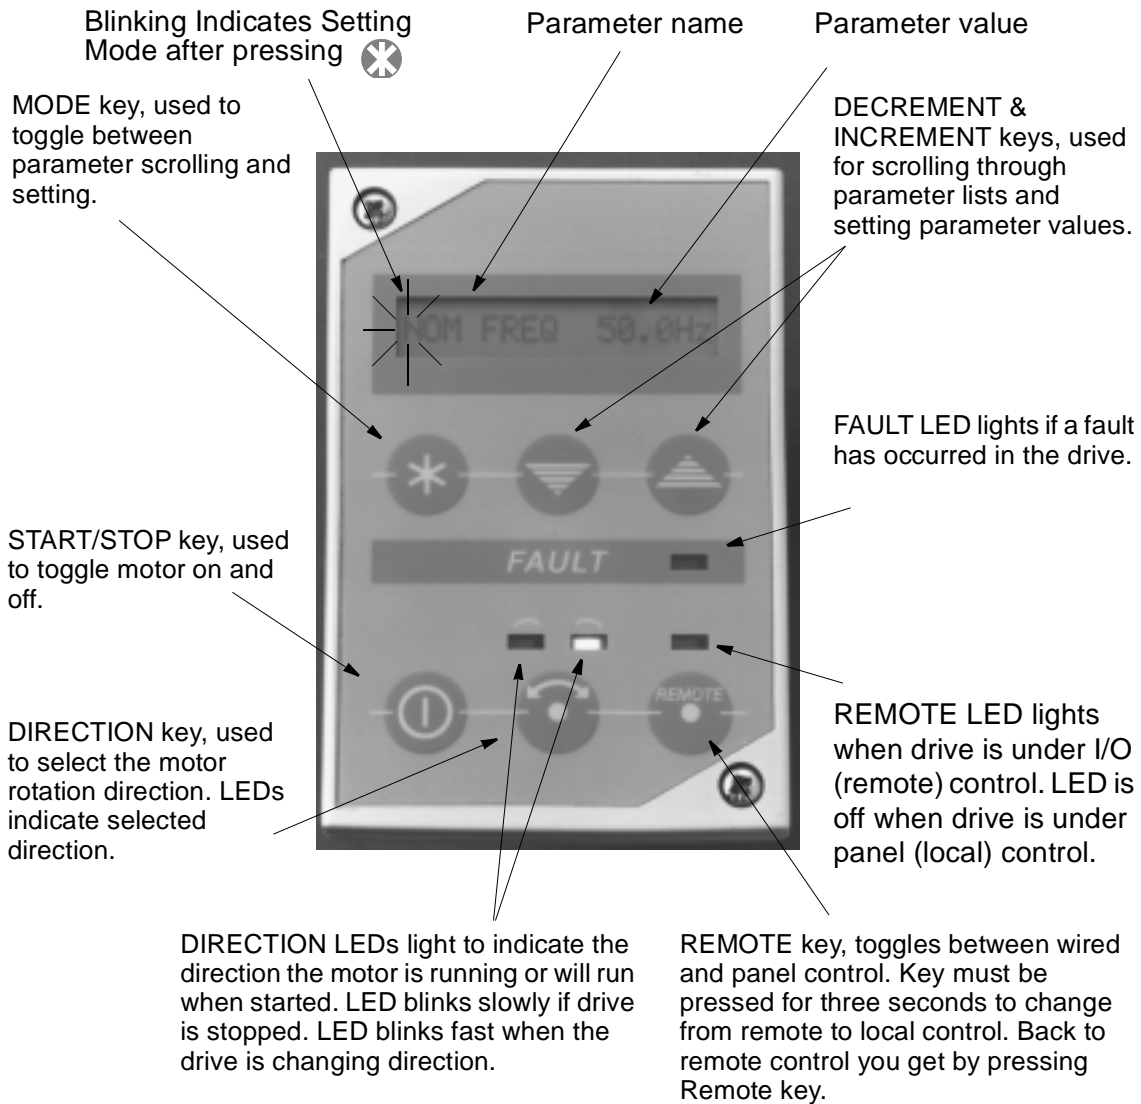

Figure 6-1 ACS 300 Control Panel.
- Control Panel** The control panel incorporates a 16 character alphanumeric LCD and keypad. The features are shown in Figure 6-1 on page 38.